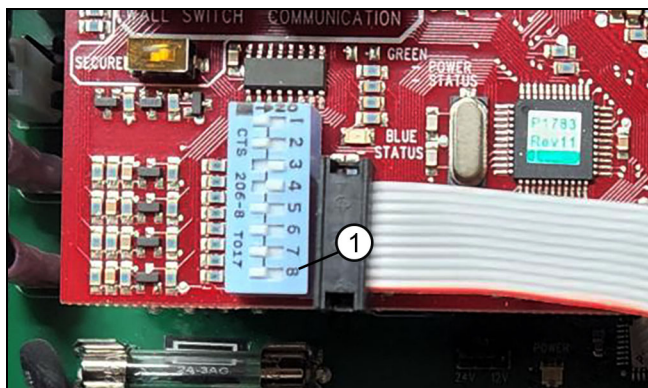

Figure 50
3. Turn on both AC and Battery power switches on the control box cover. Open the control box and flip dip switch 8 back to the left. See Figure 50.